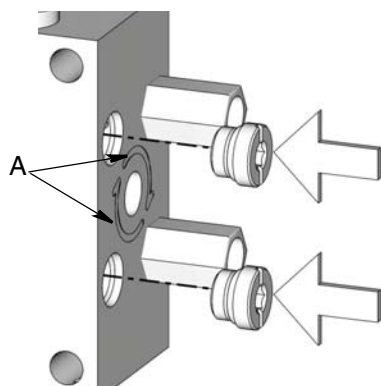

FIG. 1
1. Plug outlet using Graco doubling plug accessory part number 24F467 (FIG. 1).
Lubricant from the plugged outlet/s is redirected to the next outlet on USP divider block flowing in a clockwise order, following direction arrows (A) stamped on block (see FIG. 1).